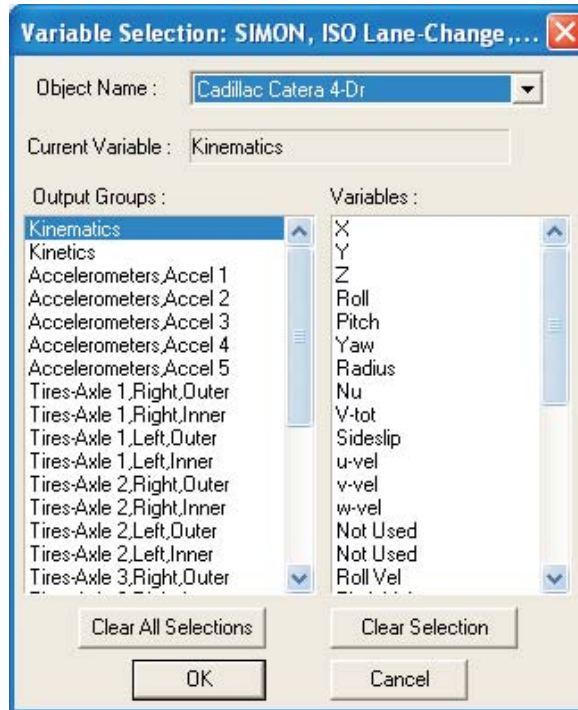

Figure 5-17 Variable Selection dialog for the Cadillac Catera 4-Dr.
- Click on *Select Variables* in the *SIMON, ISO Lane-Change, w/ABS* Variable Output window. The Variable Selection dialog for *Cadillac Catera 4-Dr* is displayed, as shown in Figure 5-17.